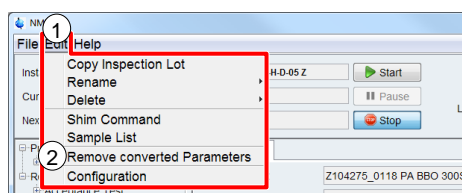

Figure 5-37: Remove Converted Parameters in menu
On the **Edit** menu shown in Figure 5-37 (1), click **Remove Converted Parameters** (2) to open Remove converted Parameters dialog.